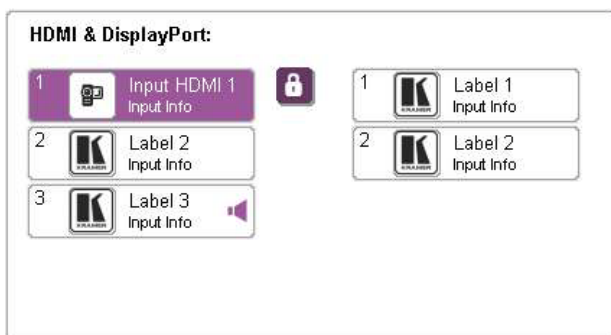

Figure 14: Combined HDMI and DP Inputs
- The inputs are combined into a single switching group as shown in Figure 14.